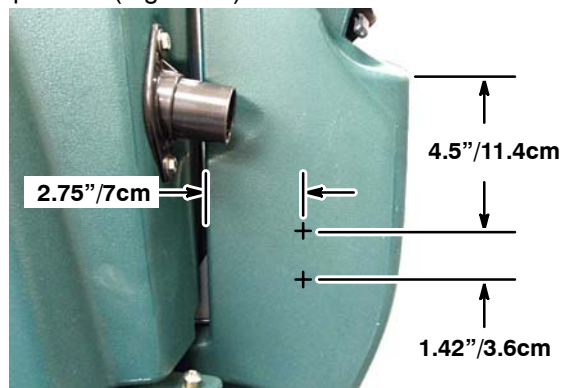

Fig. 14
15. Measure and mark the retainer bracket screw locations on the leftside of control console as specified (Figure 14).